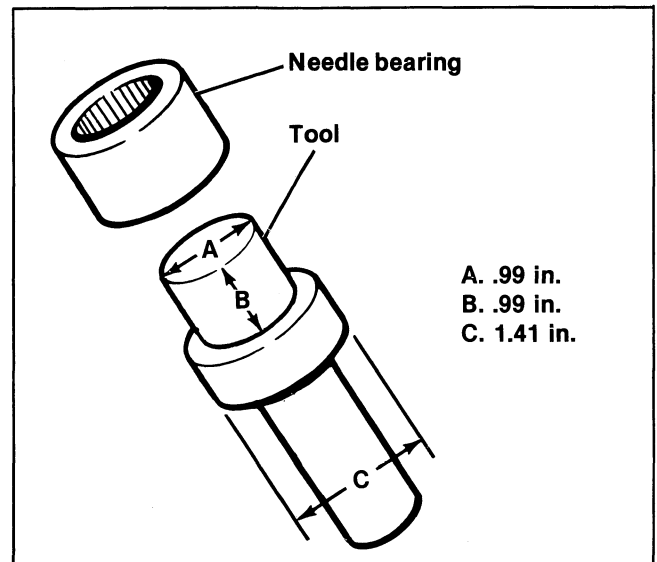

Figure 5-24. Needle Bearing Tool
12. Using a suitable press plug, press the needle bearing and seal out of the right crankcase half. A tool may be made as shown in Figure 5-24.
3. See Figure 5-24. Install bearing (17) and connecting rod on the crankpin (18) with one thrust washer (16) on each side of the rod.
8. See Figure 5-24. Install the crankshaft assembly into the case right half (2) and install the washer (6) and retaining ring (5) onto the shaft.
12. See Figure 5-24. Install the crankshaft into the case right half (2). Install the washer (6) and a new retaining ring (5). Allow the Loctite to cure for 24 hours.